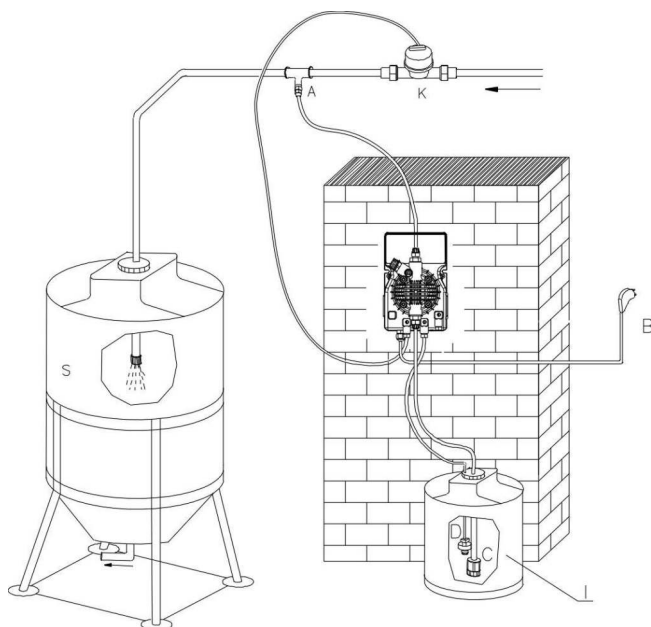

Fig. 13
6.2 - SCHEMA DI IMPIANTO TIPICO (Fig. 13)